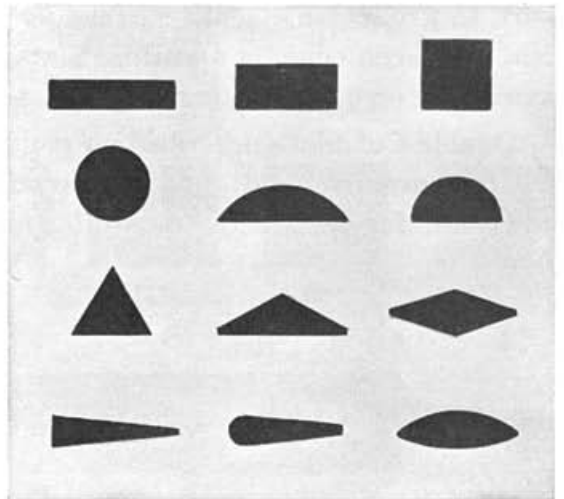

Fig. 2
**Kind.** By kind we mean the various shapes or styles of files, as distinguished by such technical names as Flat, Mill, Half Round, etc. These are divided, from the form of their cross-sections (Fig. 2), into three general geometrical classes: Quadrangular, Circular and Triangular. From them are derived, further, odd and irregular forms or cross-sections which are classified as Miscellaneous. (*As a file increases in length it grows in cross-section size.*)